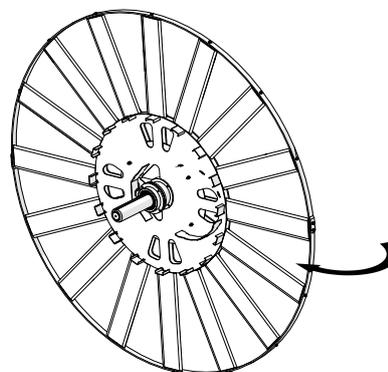

Fig. 5: Turning the Reel
6. The remaining work steps must be carried out from the other side (see Fig. 5).